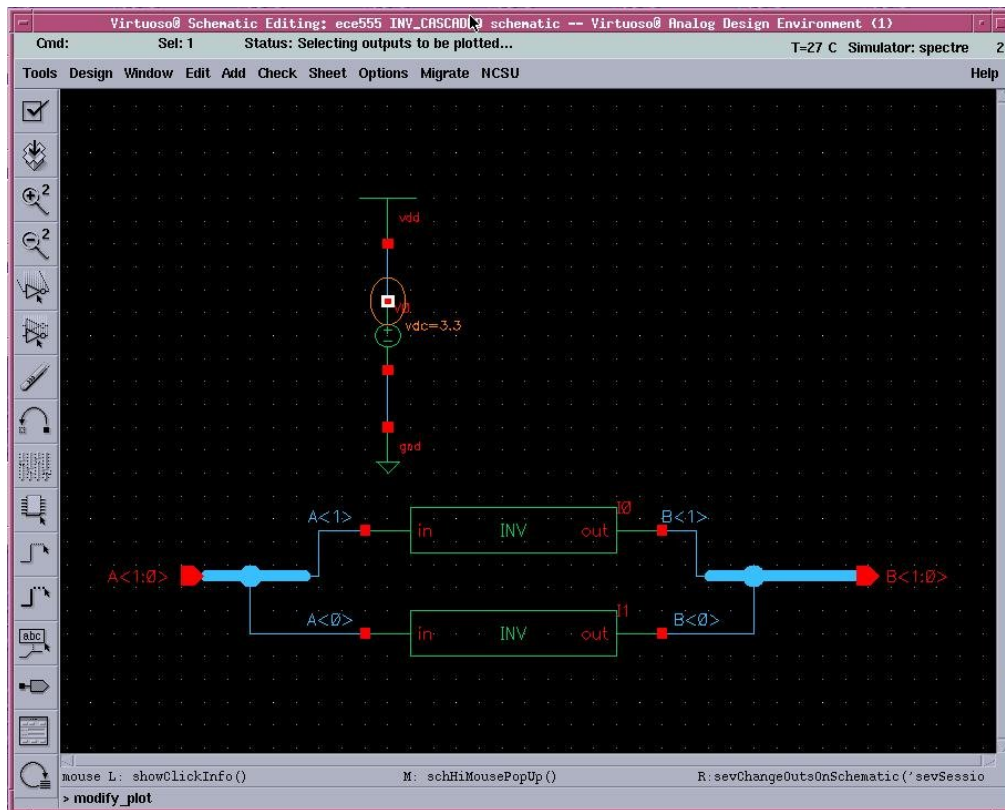

Fig. 4. Outputs to be plotted. The current drawn from VDD.
- A circle appears in the schematic as shown in Fig. 4. Make sure the circle appears. If it does not appear, then you are plotting the voltage and not the current.